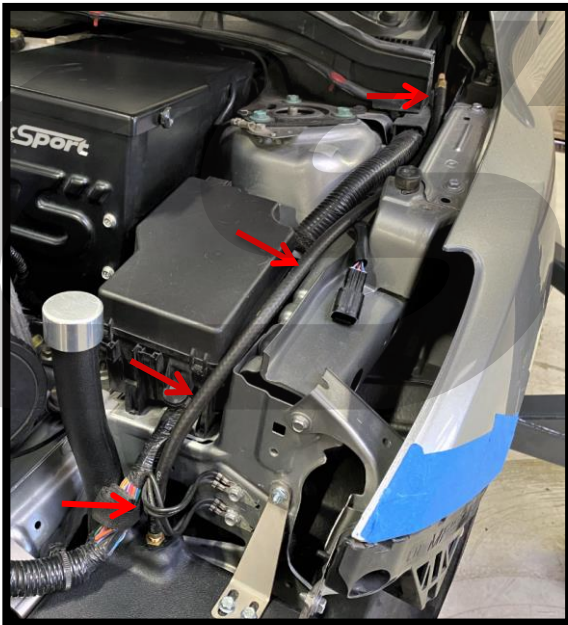

Figure 6c
- c) Run the vent hose along the top of the fender up to a place where it will be secure and free from any hot engine parts, moisture, or debris. Shown in **Figure 6c**.